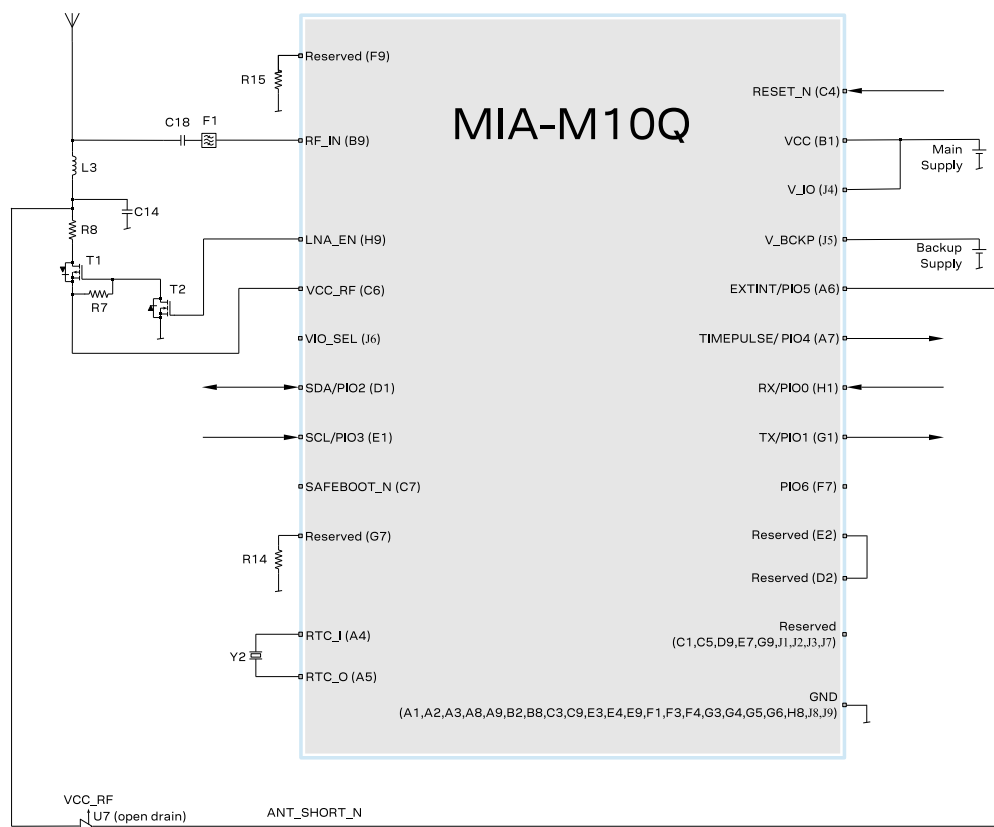
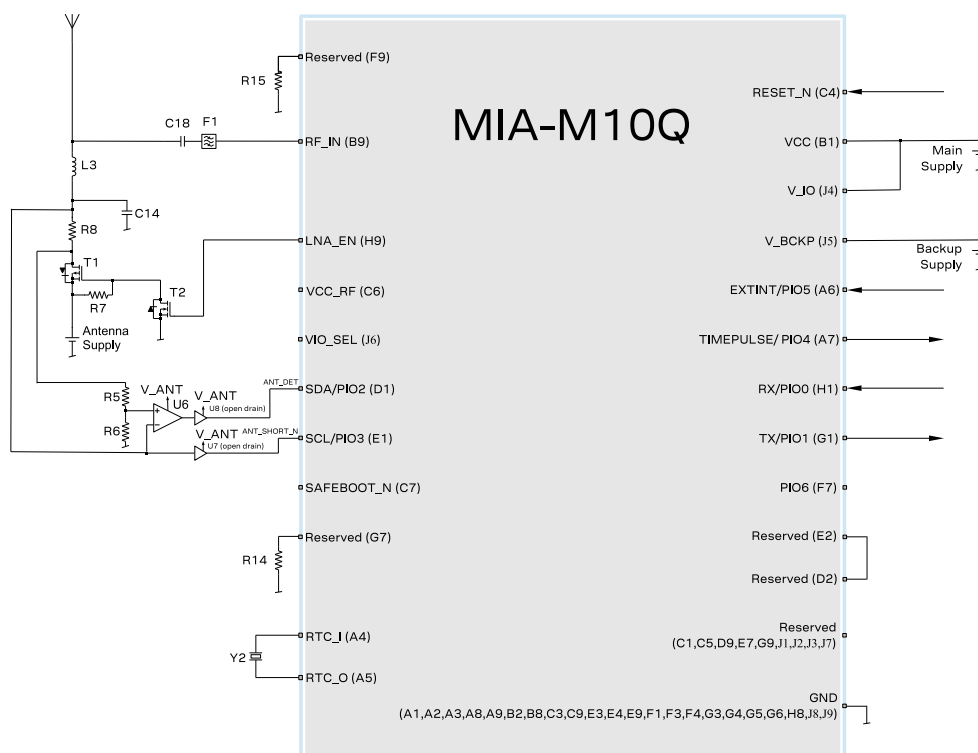

Figure 39: 2-pin antenna supervisor design
Figure 40: 3-pin antenna supervisor design
- A passive or active antenna can be used. An active antenna can be supplied either with the VCC_RF output from MIA-M10Q, as shown in Figure 39, or from an external supply, as shown in Figure 40. Nevertheless, the internal LNA provides enough gain for passive antennas.
- MIA-M10Q has an integrated RF circuit which includes band 13 notch filter followed by a low-noise amplifier (LNA) and a SAW filter, hence, no additional RF front-end component is needed. However, in cellular applications, an external SAW filter can be added in front of RF_IN as shown in Figure 39, allowing a SAW-LNA-SAW RF front-end circuit for improved out-of-band immunity against RF interference from other sources.
Figure 39 and Figure 40 show a reference design for a 2-pin and 3-pin antenna supervisor design respectively. Here are the key features:
- An external SAW filter can be placed on the RF path as shown in Figure 39, which allows an SAW-LNA-SAW RF front-end circuit for improving out-of-band immunity against RF interference from other sources. This is especially useful when MIA-M10Q is used in cellular applications.
Table 44 lists the configuration settings required for the 2-pin antenna supervisor reference design given in Figure 39.
Table 45 lists the configuration settings required for the 3-pin antenna supervisor reference design given in Figure 40.